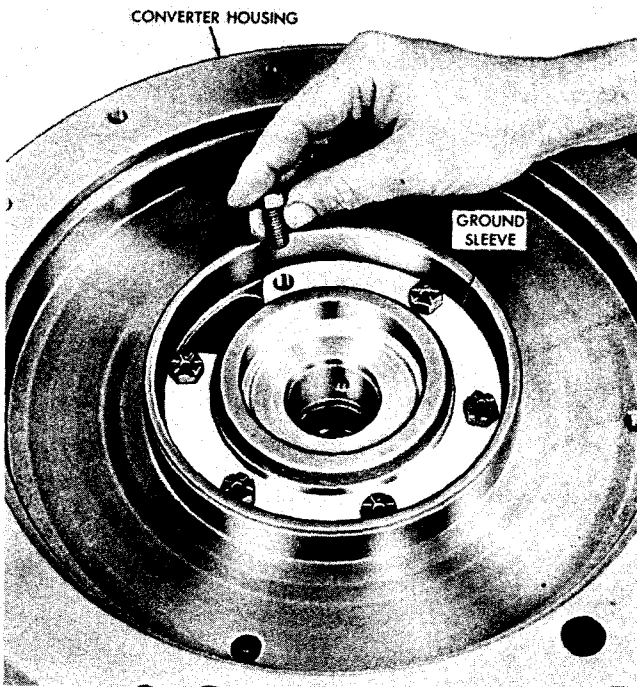

Fig. 6-15. Installing converter ground sleeve bolts
(1) If converter ground sleeve 20 was removed, chill the sleeve in dry ice for one or two hours and install into the rear of converter housing 34. Secure the ground sleeve with six bolts (fig. 6-15). Install two seal rings 19 (one on current models — either groove) into ground sleeve 20.